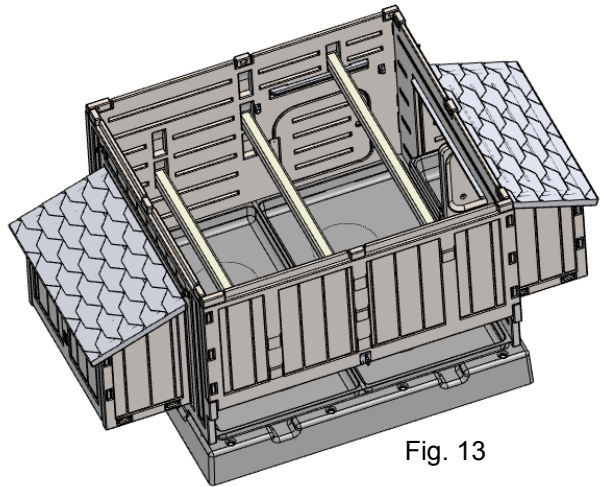

Fig. 13
**Step 13:** Install the Roosts by seating them into the recesses found in the Front and Back Walls. (Fig. 13) What height and whether or not you want to install all three roosts depends on your situation.